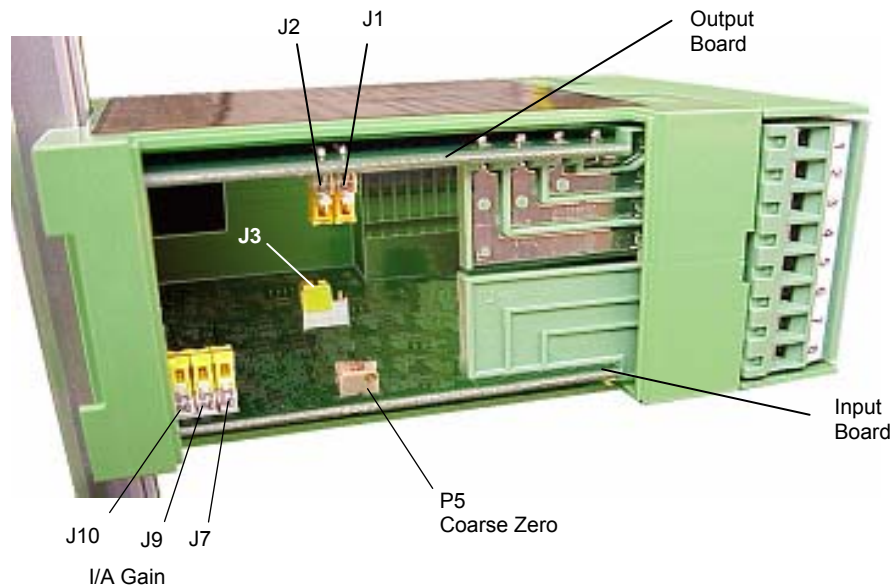

Figure 4 - Internal Jumper-switches and Potentiometer Location
A number of operational characteristics can be configured prior to mounting or wiring the amplifier. We recommend that you first familiarize yourself with the internal switch locations, settings, and potentiometers by opening the snap-on access cover. Figure 4 illustrates the location of configurable items on each of the printed circuit boards.
In addition to the Gain and Zero adjustable Potentiometers visible on the front of the unit, there is an adjustment you can make by removing the snap-off cover on the side of the amplifier. The adjustment is on the input printed circuit board as shown in Figure 4. The following table provides you with a list of all the Potentiometers, where they are located on the Classic Series DIN Rail input printed circuit board, and a description of their functions. To adjust potentiometers, refer to *Adjustment Tools 3.7*.
The Excitation Voltage is determined by the position of jumper switch J3. Refer to Figure 4 for Jumper-switch locations. The jumper default setting is J3 (1-2) for 5.00V excitation. Do not use 10V setting J3 (2-3) unless explicitly permitted by the load cell electrical specifications. Promptly verify the excitation voltage after power-up to avoid overdriving strain gages. Note that if there is no external load resistance, the voltage may rise to 6.4V, but will immediately regulate at 5.00V when the load cells are connected.
The group of jumper-switches that control the fixed gain of the Instrumentation Amplifier (IA) are located closest to the front left edge of the Input card. (Refer to Figure 4) The lowest gain ($A_v = 5$) occurs when all of the switches are in the 1-2 position. As switches are moved "away" (into position 2-3) from left to right, the gain progressively increases as described in following table:
The damped output for a tension indicator can be configured as either a +/- 2V output or a +/- 1mA output by changing the position of jumper-switch J1 located on the Output Card (Refer to Figure 4 for location). Voltage output is selected by setting J2 (1-2). Current output is selected when J2 (2-3). Note that different wiring terminals are employed for the signal return when configured for current or voltage.
The amount of damping for the meter output (intended to drive a tension indicator) can be configured by the position of jumper-switch J2 on the Output card (refer to Figure 4 for location information). Setting the jumper switch to J2 (1-2) sets the break frequency at 0.3 Hz. Setting the jumper switch to J2 (2-3), the break frequency setting is raised to 3.7 Hz